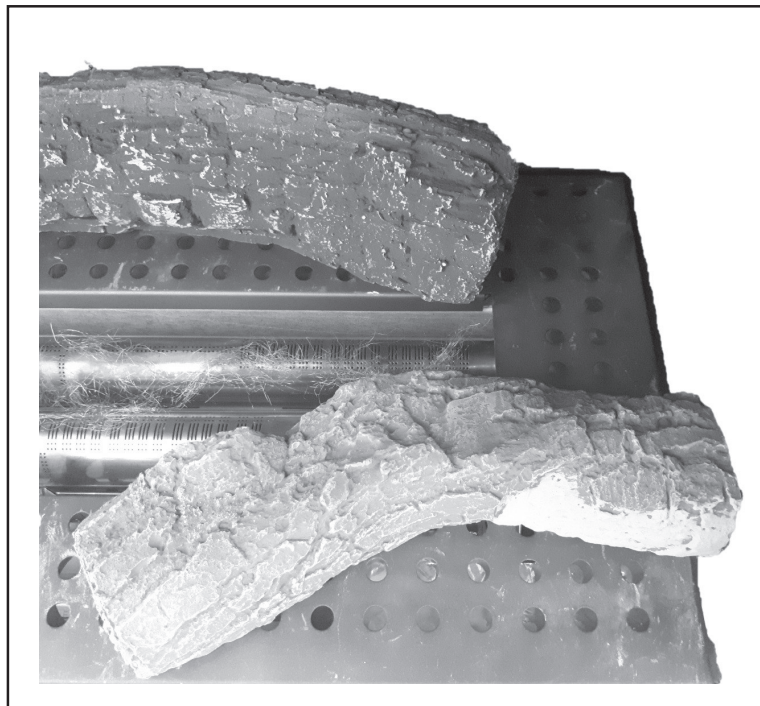

Fig. 2
2. Place Log '2' in position as shown in Fig.2 on the far RHS. Log 2 has a flat side to rest on the metal base. Locate the log with its end touching the side inner wall surface. The log does position over the front burner front RHS blank end, but only where there are no burner port holes below the log.